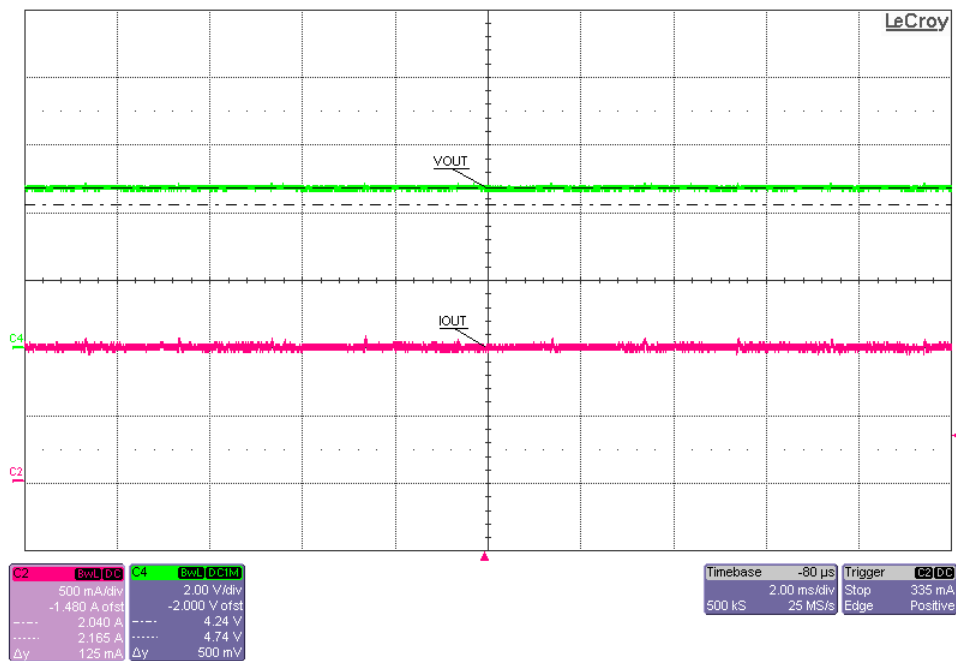

Figure 2. bq51221 in Steady State Operation with bq24250EVM
- Figure 2 shows the VOUT and IOOUT from the RX as the battery charges